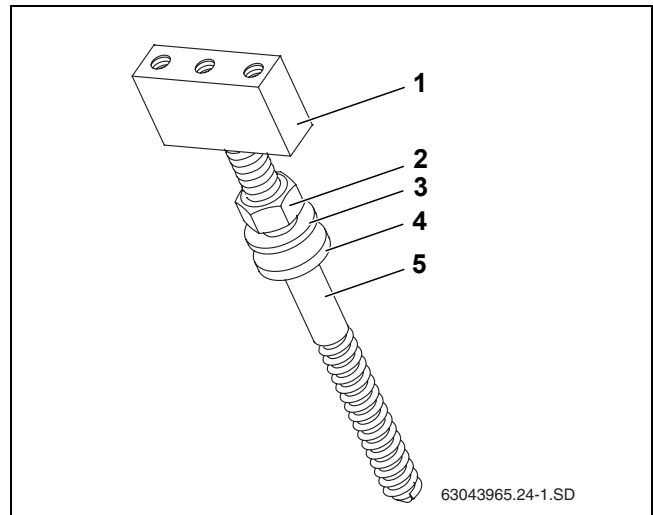

Fig. 22 Fitting the double ended screws - sequence
- ▶ When fitting the double ended screws, pay attention to the sequence of the individual parts (Fig. 22).
- ▶ Turn support block (Fig. 22, [1]) as far as it will go onto the double ended screw (Fig. 22, [5]).